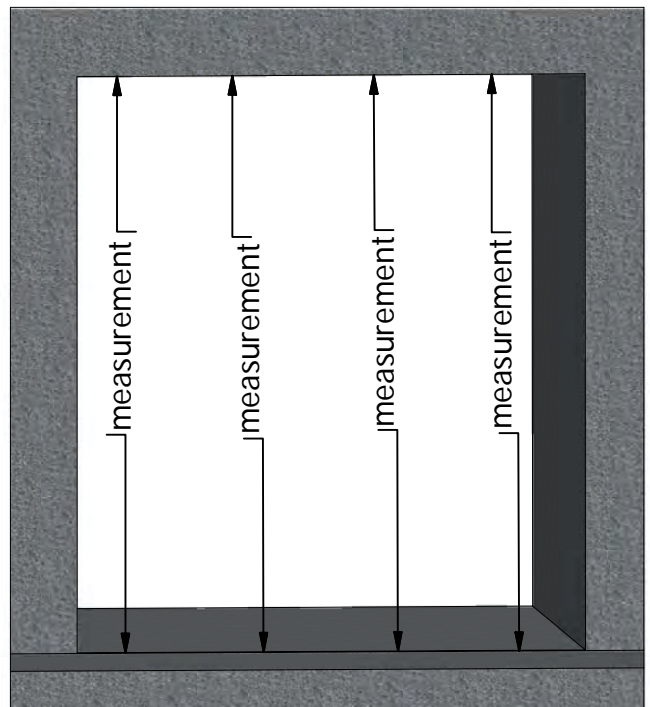

FIGURE 3.2
- Measure the vertical height at the corners of the rough opening and every several feet (*figure 3.2*).
- Take the smallest measurement and subtract clearances to find the actual frame height (FS). Cross Aluminum Products standard head clearance is 1/4". In this case, you would take the smallest height measurement and subtract 1/4". For out-of-square openings or if architectural specs call for, the clearance can be increased to 3/8".